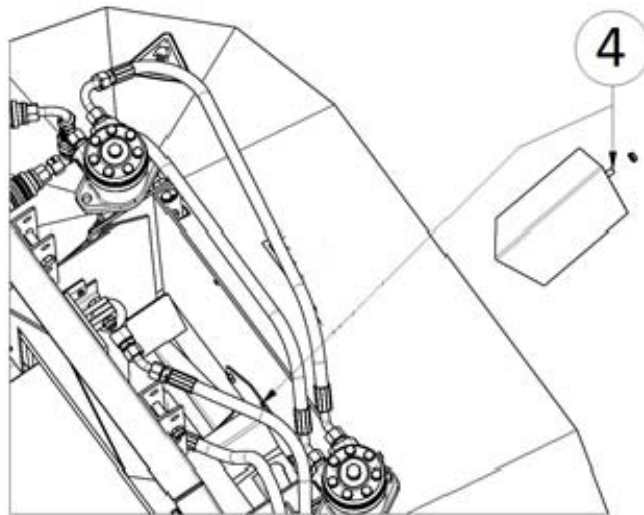

Fig. 4: Spreading Mechanism
- (4) Deflector (see page 12 - Fig. 4)
- For very wet material and large thick debris, the deflector (4) can be removed from the spreading system (by means of a locknut M8) (Fig. 4).